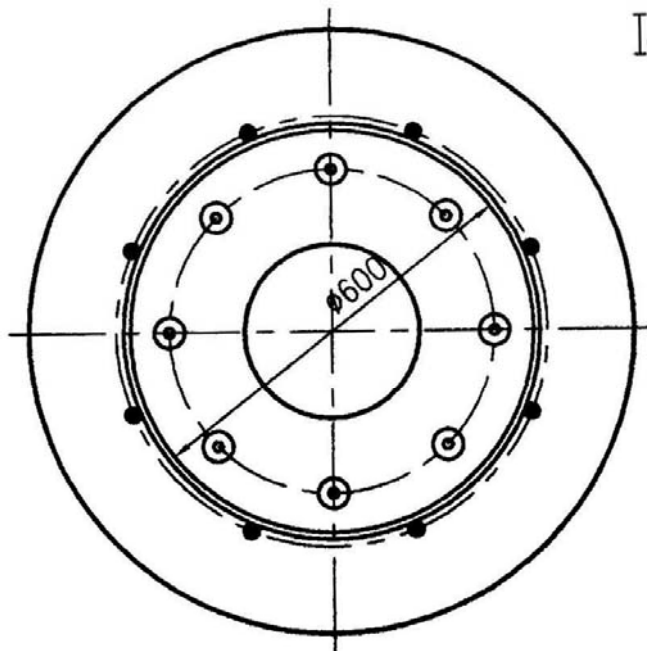

Fig.2 Foundation Drawing
3.4 Dig a hole which is 800mm in diameter and 2000 –2500mm in depth. Put the base framework, the orientation plate and 8 ground bolts into the hole (See fig.2 and fig.3)